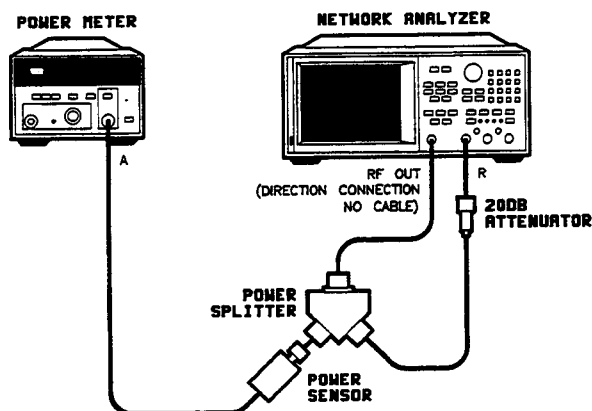

Figure 3. Equipment Setup for Source Power Check
1. Connect the equipment as shown in Figure 3 below.